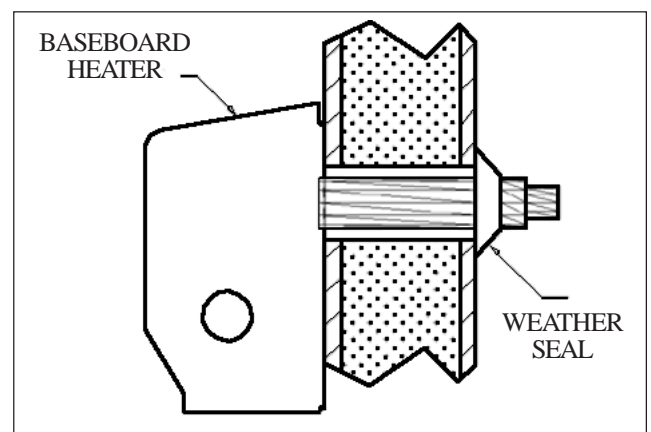

FIGURE 8
- i) From outside the house, slide weather seal over air intake pipe and against outside wall. See Figure 8.